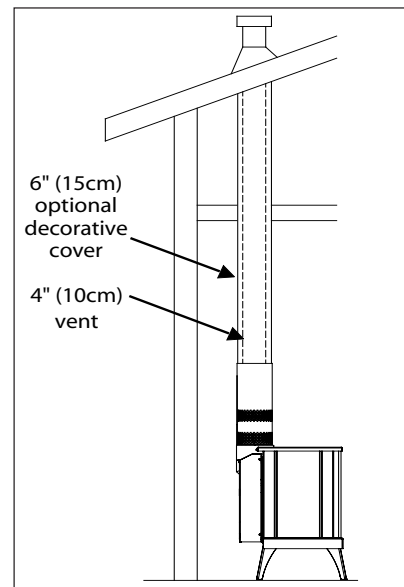

Figure 44: Unit top venting styles.
3. Being careful not to run any wiring tight across metal edges; connect them to the valve and "ON/OFF" switch (refer to Figure 44).
The fireplace connections are labelled in Figure 44. When installing the Drafhhood Adaptor onto a fireplace fitted with an optional wall switch or an optional thermostat, remove one wire from the switch to the gas valve and connect the Drafhhood Adaptor harness as shown in Figure 44.
2. Disconnect the spill switch wires from the valve and on/off/remote rocker switch wire (see Figure 44).